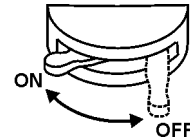

Figure 60. Battery ON/OFF Switch (ON)
2. Set the **battery ON/OFF switch** (Figure 60) to the "ON" position.